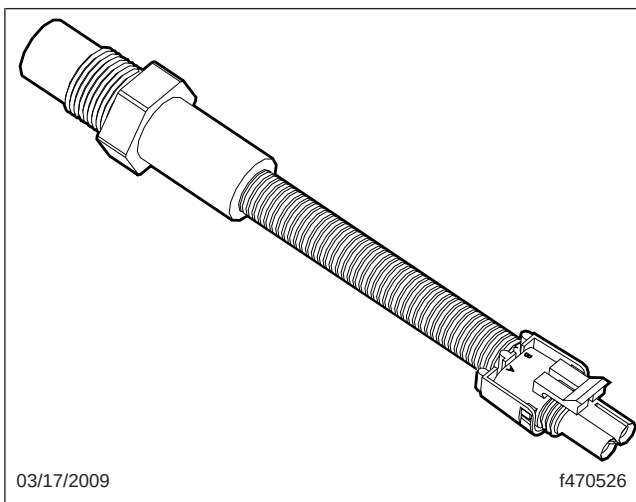

Fig. 2, 12 VDC Thermoswitch
4. Disconnect the thermoswitch wiring harness, see Fig. 2. Remove the thermoswitch from the fuel/water separator.